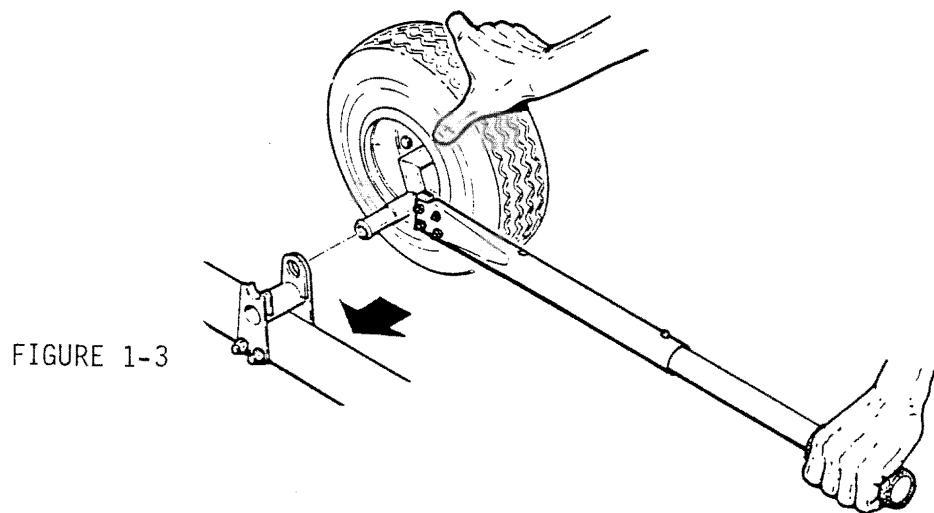

FIGURE 1-3
- a) Extend the handle by depressing the handle locking pin and sliding the handle out until the pin snaps into the outer hole. Hold handle and wheel with the protruding spindle in its lowest position. Insert spindle into support mounted on skid (see Figure 1-3).